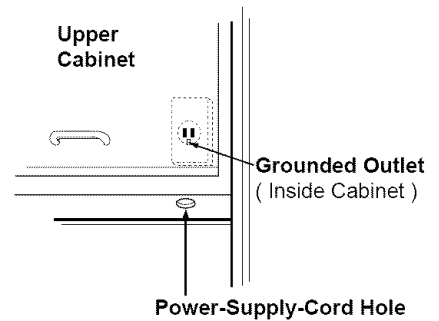

Figure 4
1. Locate the grounded electric outlet for this oven in the cabinet above the oven, as shown in Figure 4.
2. You will cut the power-supply-cord hole (shown in Figure 4) later when you prepare the wall and upper cabinet in Step 4.
NOTE: Be sure the minimum width is 30 inches and the distance from the top of the mounting plate to the range or counter top is at least 30 inches. See Figure 4 on page 4.